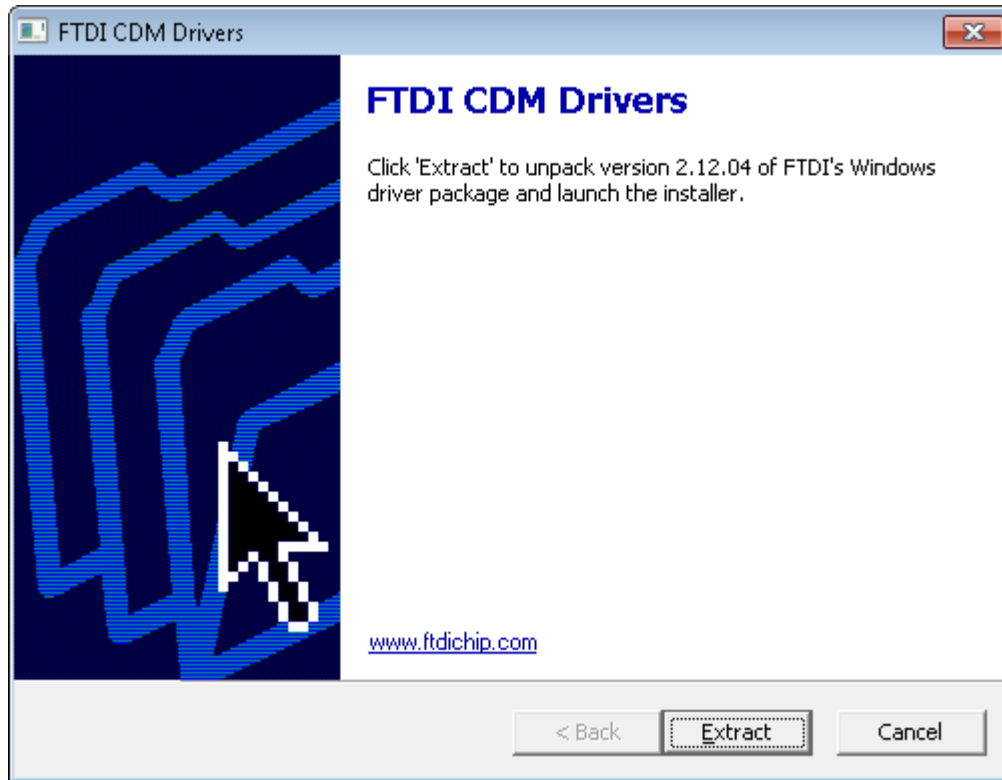

Figure 14. FTDI Installation Initialization
14. After DRV8800-01EVM Installation, FTDI Installation begins. A screen as shown in Figure 14 appears, click **Extract** to proceed.